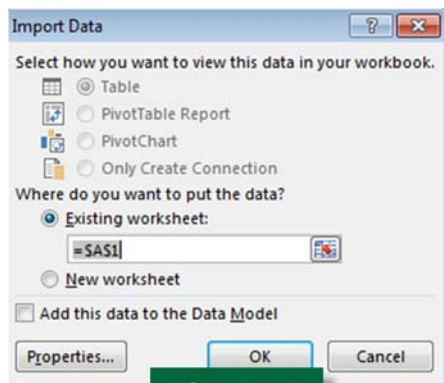

Figure 18
- In the **Existing worksheet** field, select cell **A1** (Figure 17), and click 'OK' to import the data, which will appear in the Excel worksheet, as shown in Figure 18, following the summary information.